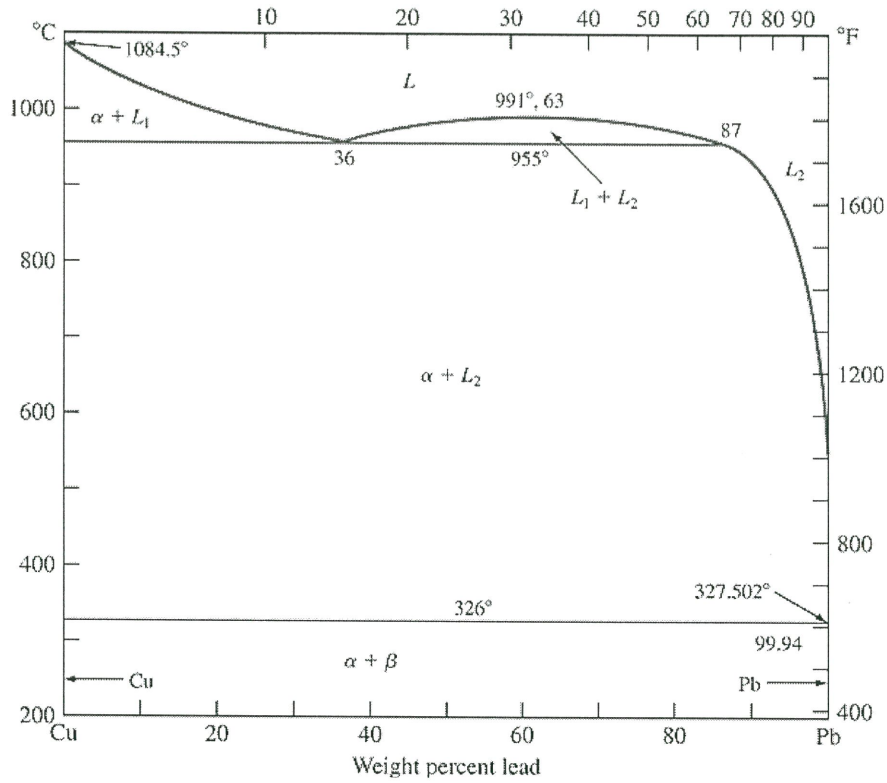

Figure Q4 (a): The Copper-Lead phase diagram.
- Q4** (a) Consider the Copper-Lead (Cu-Pb) phase diagram system in Figure Q4(a). Make the phase analyses which includes of the phases present, the chemical compositions of the phases and the amounts of each phase of Cu-10 wt % Pb at the temperatures of :